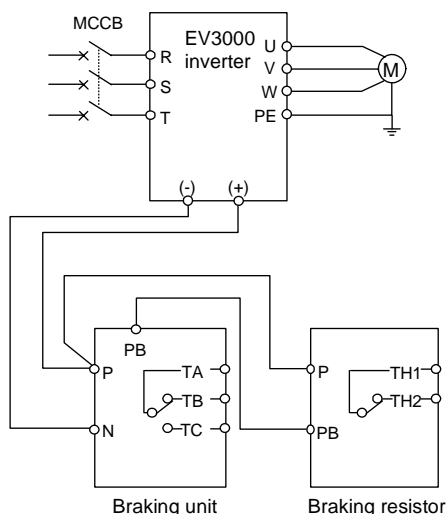

Figure 9-3 Connection of braking unit and braking resistor
1. Connection of braking unit and braking resistor is shown in Figure 9-3.